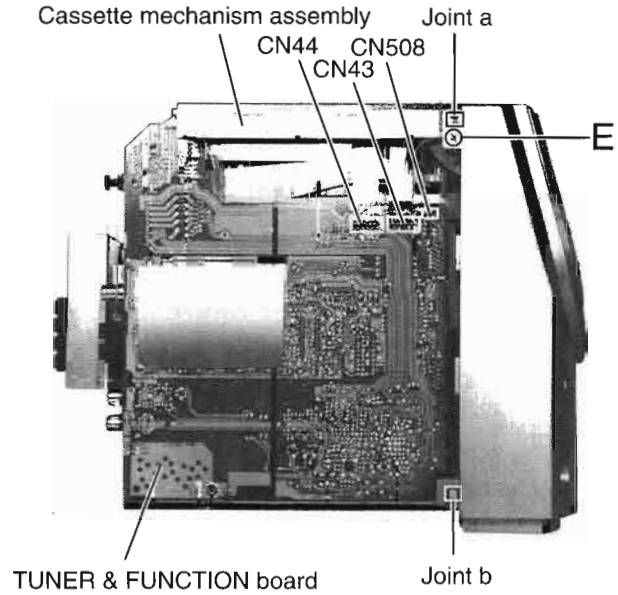

Fig. 5
■ Cassette mechanism assembly (Refer to Fig. 5 to 7.)
3. Disjoin the two joints b on the right and left sides of the main frame so that the front panel assembly is released from fitting with the main frame. (Refer to Fig. 5 and 6.)